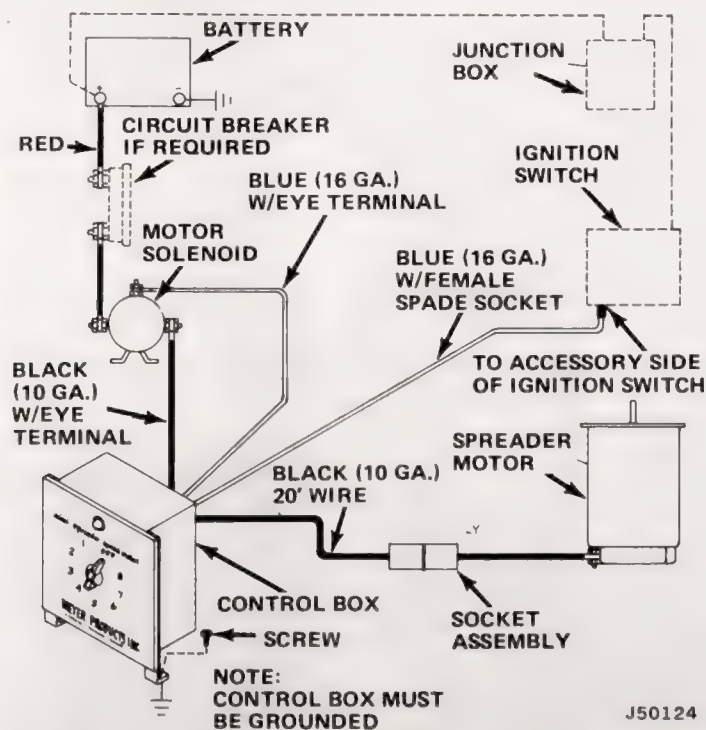

Fig. 4-8 Electric Motor Variable Speed Control Box Wiring Diagram
(1) Connect one end of red wire to positive side of battery, and other end to side terminal of motor solenoid (fig. 4-8).
- (2) Position speed control box at bottom edge of instrument panel or location convenient for driver.
- (3) Attach control box with self-tapping screws.
- (4) Connect female spade end of blue wire to accessory side of ignition switch.
- (5) Connect eye terminal of blue wire to small post on solenoid.
- (6) Connect eye terminal of black wire to other side terminal of solenoid.
- (7) Connect black wire to female section of connector at rear of vehicle.